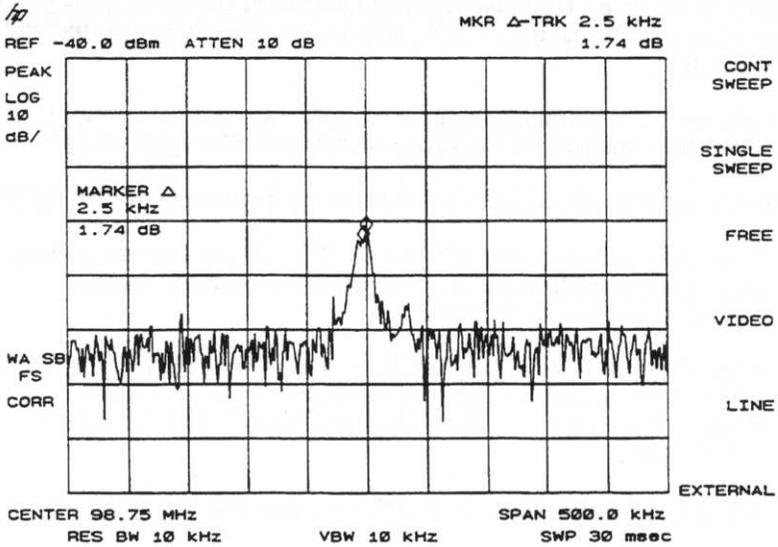

Figure 2-5
3. The "real-time" signal frequency drift can be read from the screen if both the signal track and marker delta functions are active. Press **MARKER, MARKER DELTA** and **SIGNAL TRACK**; the Marker readout indicates the amount of frequency and amplitude change as the signal drifts. (See Figure 2-5.)